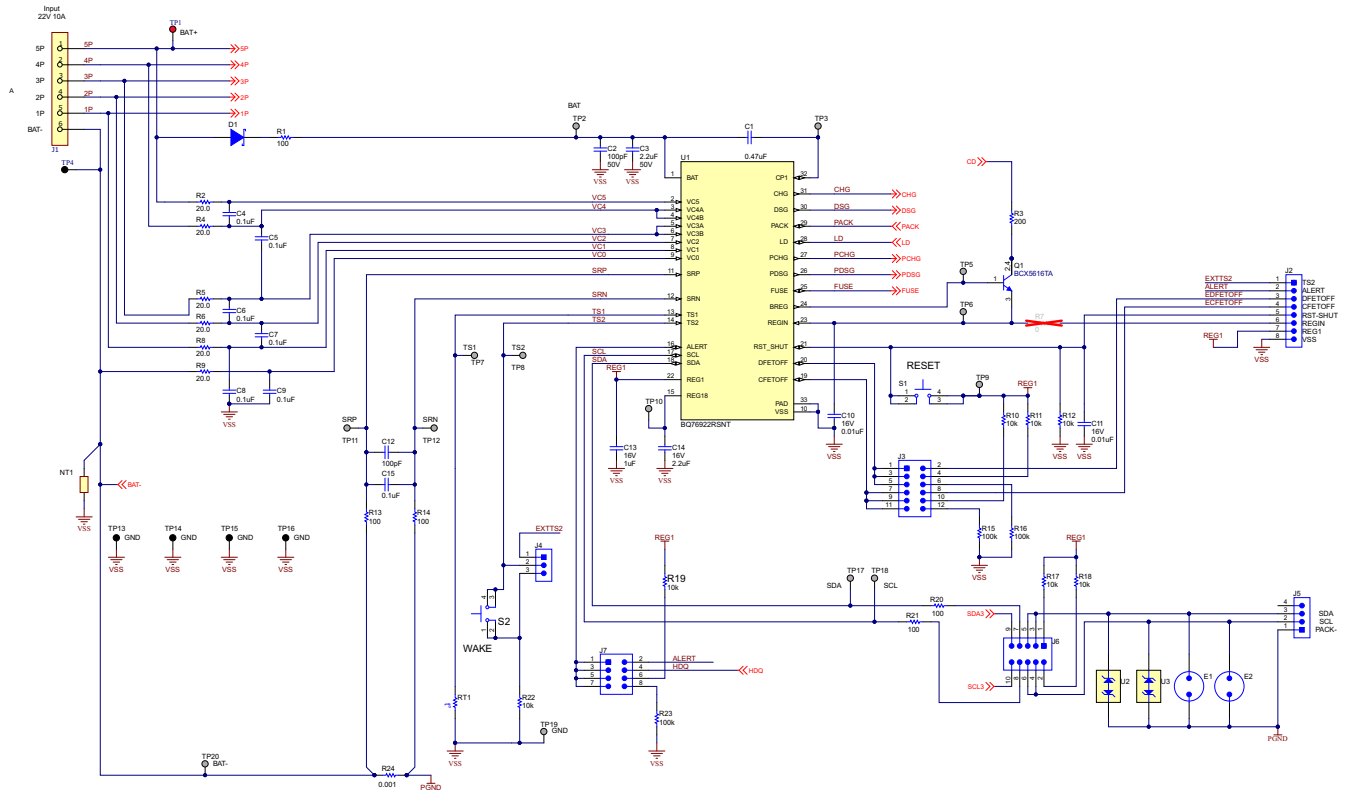

図 8-2. BQ76922 5-Series Cell Schematic Diagram—Monitor
- Power dissipation, which can be a factor of the RDS(ON) rating of the FET, the FET package, and the PCB design.
- The overdrive level of the BQ76922 device charge pump should be selected based on RDS(ON) requirements for the protection FETs and their voltage handling requirements. If the FETs are selected with a maximum gate-to-source voltage of 15V, then the 11V overdrive mode within the BQ76922 device can be used. If the FETs are not specified to withstand this level, or there is a concern over gate leakage current on the FETs, the lower overdrive level of 5.5V can be selected.
- A diode can optionally be included in the collector circuit of the BJT, in order to avoid reverse current flow from BREG through the base-collector junction of the BJT to PACK+ during a pack short circuit event. This diode can be seen in Figure 8-2 at D2.